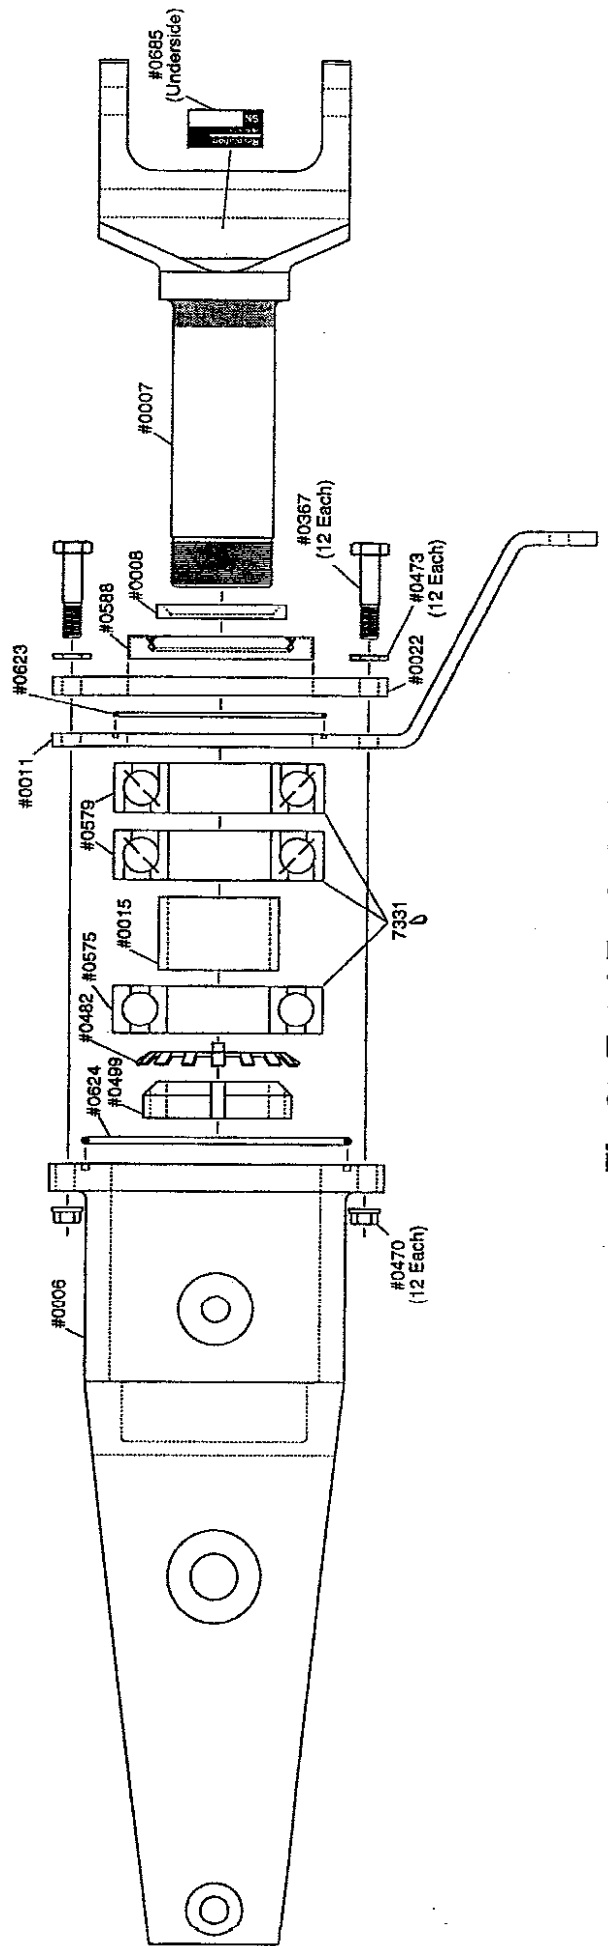

Fig 2 - Total Exploded View
9. Insure that the O-ring #0623 is seated properly. See Fig 2.